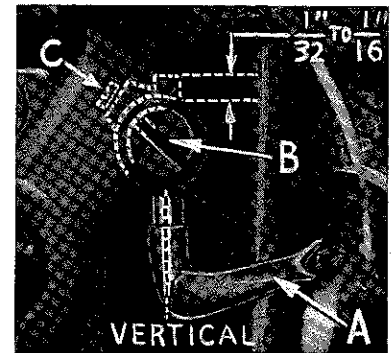

Fig. 7
its shank. Insert spreader holder into spreader shaft, if it is not already in place. Screw (C, Fig. 7) on clamp collar holds spreader holder in the shaft, and allows holder to be rotated or adjusted laterally.
Preliminary Setting: When spreader is at the right end of its stroke, spreader holder should be set to position spreader shank about vertical (Fig. 7). Top end of spreader shank should extend $1/32$ to $1/16$ inch above the spreader holder (Fig. 7).
Insert spreader (A, Fig. 7) in its holder. Screw (B) holds spreader in its holder, and permits it to be pushed in or out or turned around